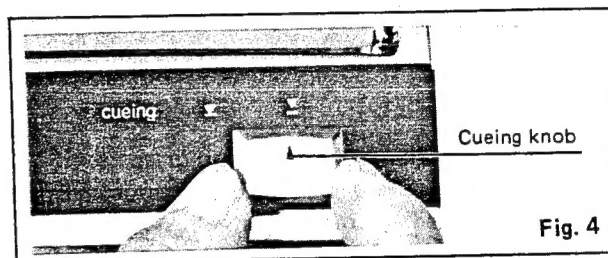

Fig. 4
6. Set the cueing knob to the "▼" position. (See Fig. 4.)